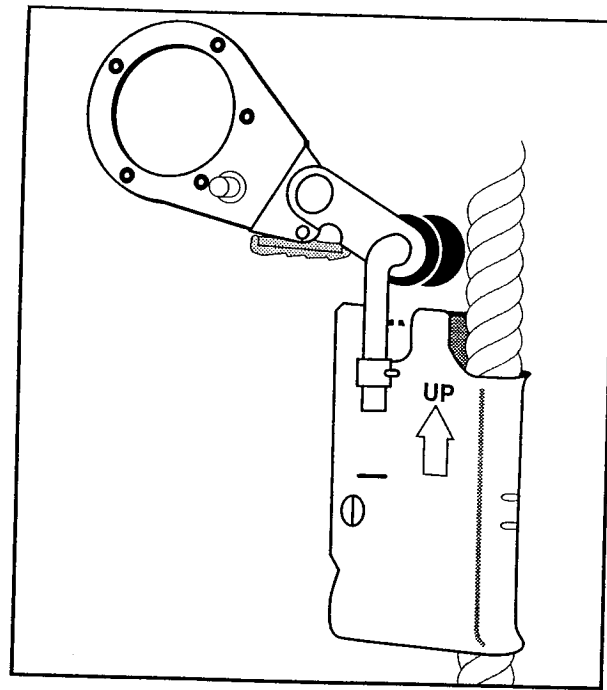

Figure 5
9.4 Install the rope grab on the lifeline with the arrow pointing up (see Figure 5).
10. Read all markings on the rope grab (see Figure 5 and 6).